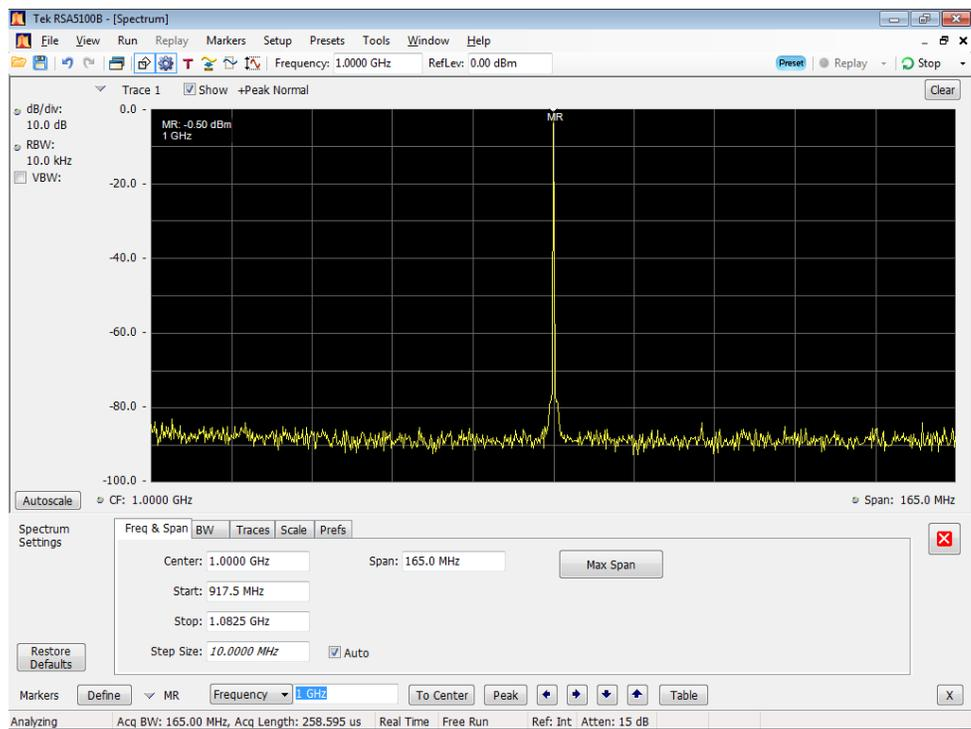

Figure 9: 1 GHz output waveform – Filter set to Low Pass
16. Check that the Channel 1 waveform is properly displayed on the signal analyzer screen. (See Figure 9.)